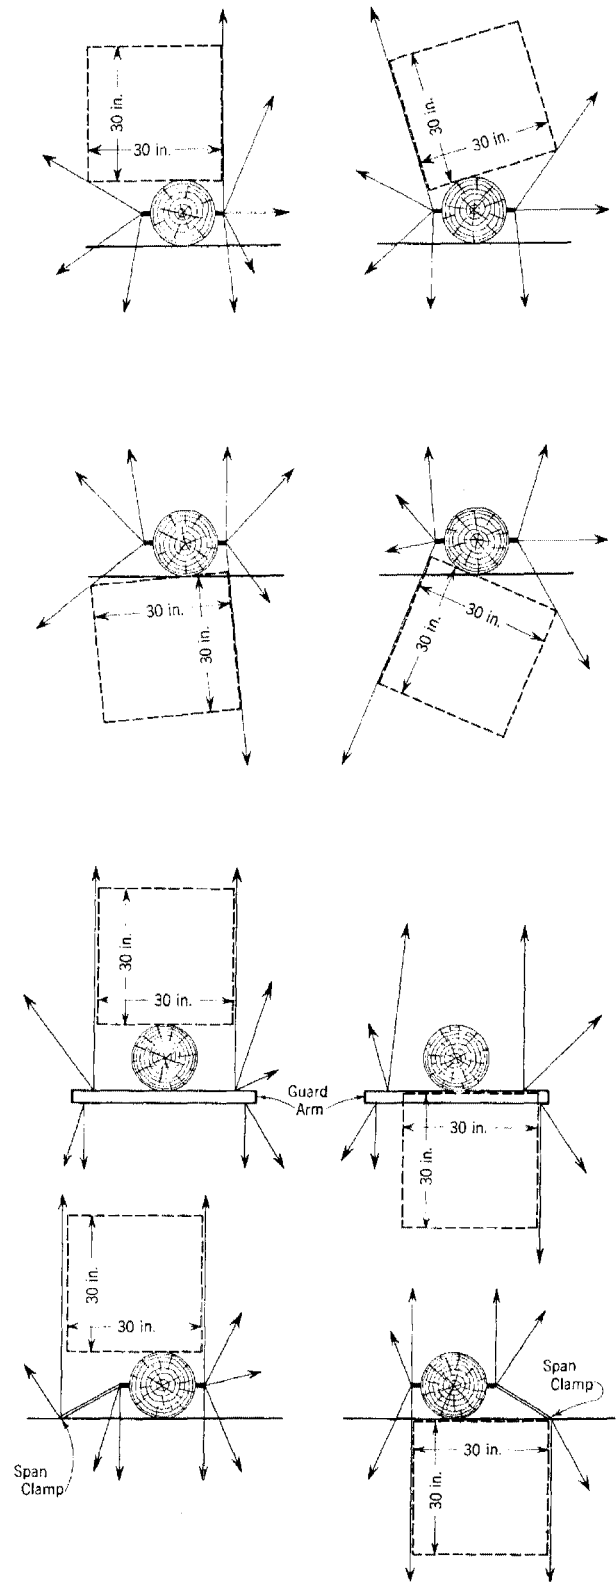

Fig. 3
3.02 Where climbing space cannot be obtained because of drop wire attachments, if longitudinal cable is present, place span clamps on the strand and distribute from it. If longitudinal cable is not present and climbing space cannot be otherwise obtained, place a guard arm and distribute from it. See Fig. 3.